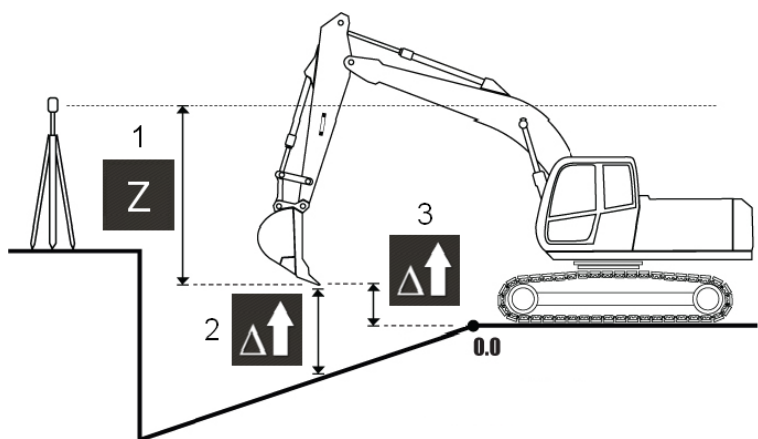

Fig. 7: Symbols
Selected measurement symbols are shown in Fig. 7, 8, 9 and 10.
• The height difference between the bucket measuring point and the reference point (Fig. 7)
The height difference between the bucket measuring point and the reference surface (Fig. 7)
The absolute height of the bucket measuring point with the height reference done by laser measurement (Fig. 7)